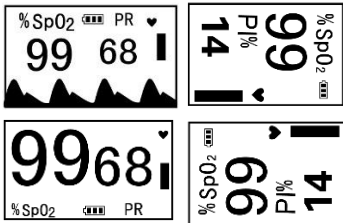

Figure 9
- For Oximeter PC-60B1, short time press Display Key to change display direction and shift between PR and PI, as shown in figure 9.